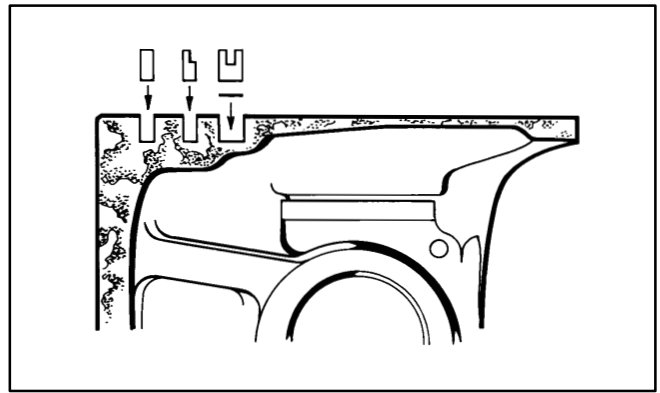

FIGURE 48. PISTON RINGS
3. Refer to Figure 48. Use a piston ring spreader to install the piston rings to prevent twisting or excessive expansion. Follow the instructions in the ring kit exactly. Note which ring goes in which groove and which side of the ring is “up”. Also note that the oil control ring is an assembly.